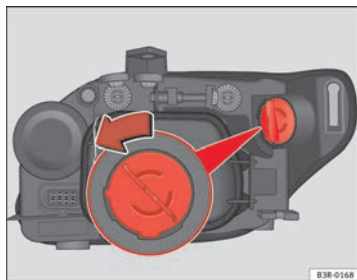

Fig. 207 Indicator bulb
- Turn the bulb holder anti-clockwise, pulling it by the grip ⇒ fig. 207 and removing the bulb holder and the bulb.